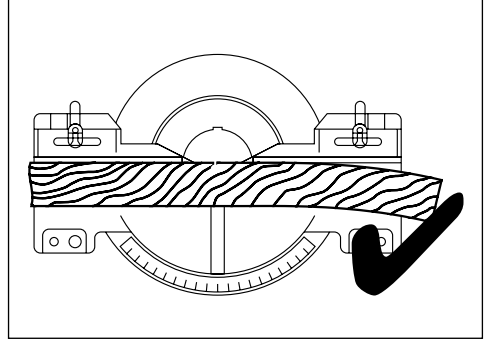

Fig. 26
7.6 Cutting Curved or Warped Material – Figs.26 – 27